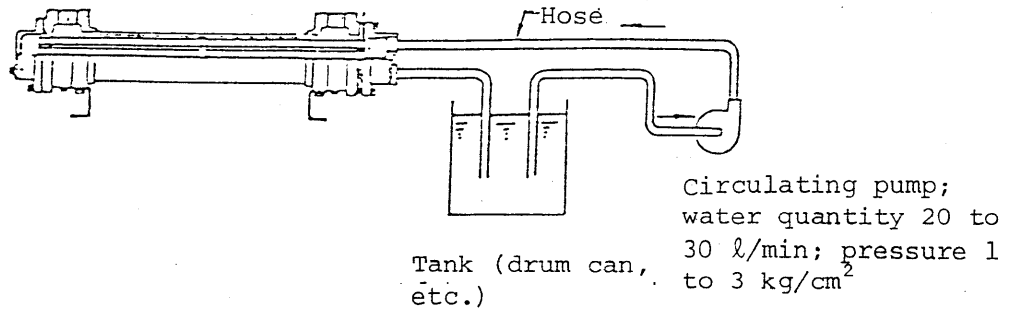

Fig. 8
1) Working procedure for case of Fig. 8